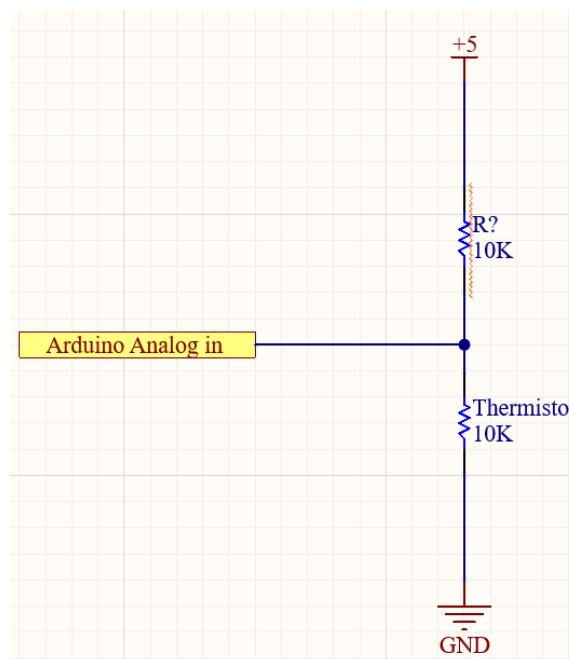

Figure 1. Simple thermistor voltage divider
Step 2: Construct a circuit on a breadboard using this simple voltage divider (see figure 1) where the Arduino Analog input pin directly reads the Thermistor's voltage level: